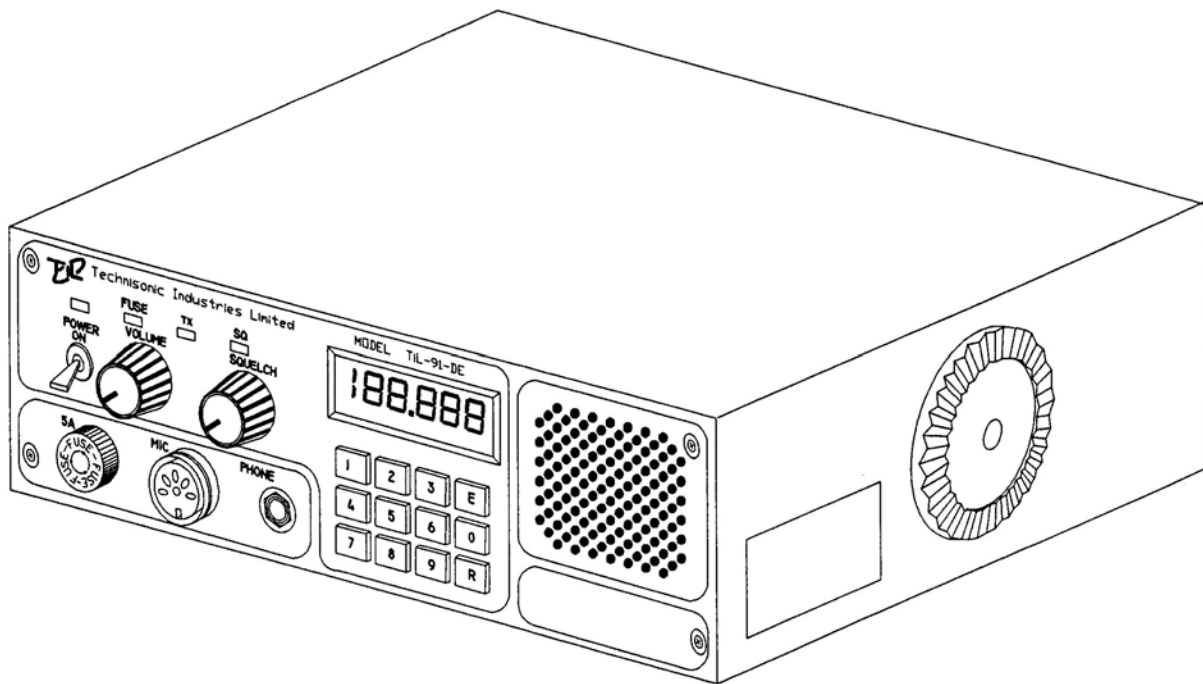

Figure 1.1 91-DE Transceiver - General View
- (1) Intended Purpose and Use - The transceiver is intended for installation in airport service vehicles, such as cars, snowplows, and grass cutters, to allow ground control over such vehicles while they are negotiating aircraft manoeuvring areas.
- (2) Brief Description of System Units - VHF/AM Mobile Transceiver System 910200 consists of the following items:
- (a) Transceiver Model 91-DE, Part Number 901006-2, Series 1, is a VHF/AM transceiver which operates in simplex and allows quick keypad access and LCD display of the frequency range 117.975 MHz to 138.000 MHz with 25 kHz channel spacing. The transceiver operates from a 12 volts dc nominal vehicle power supply (negative ground only). An optional extra cost dc to dc converter P/N 863118-1 can be installed in the transceiver to allow operation from an input supply from 10.8 to 30.0 VDC. A general view of the transceiver is given in Figure 1.1. The transceiver is normally located under the dashboard of a vehicle using a mounting bracket and mounting hardware.